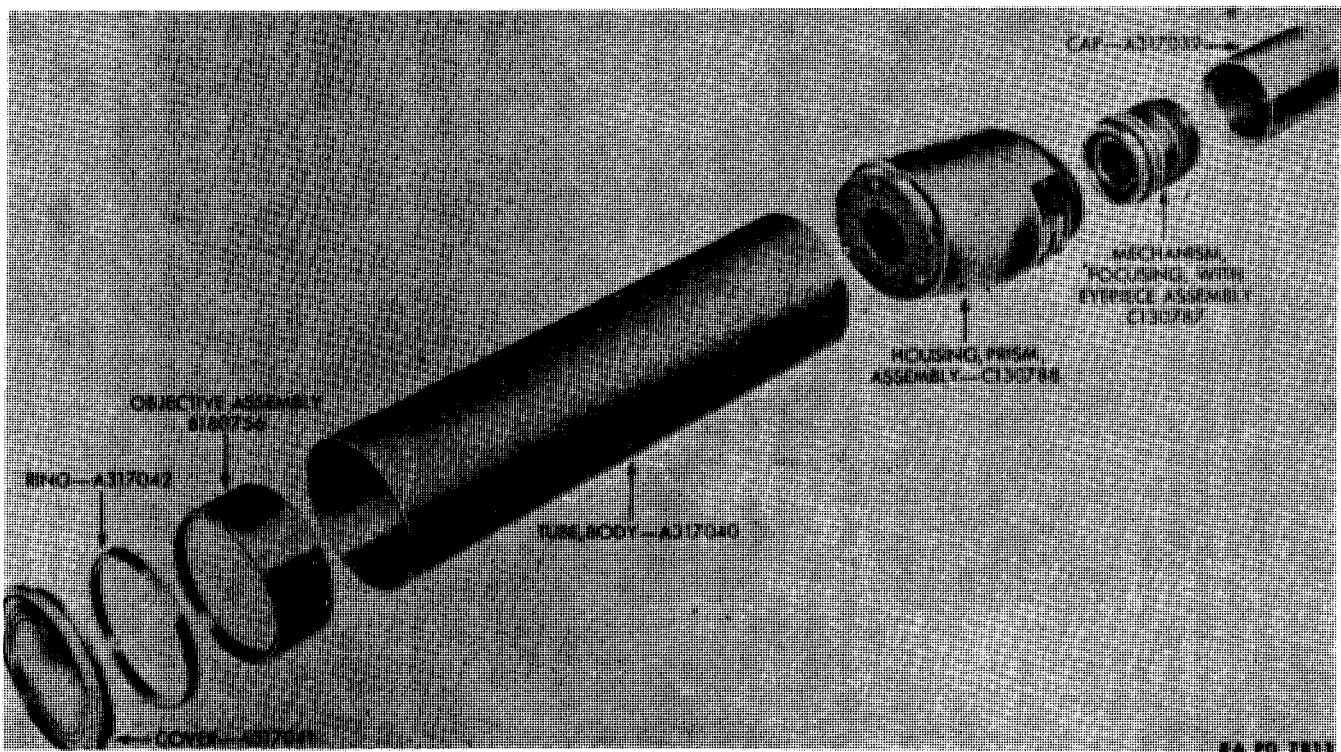

Figure 14—Observation Telescope M49—Partially Disassembled
(1) Unscrew cover cap A317039 (fig. 14).
(1) Unscrew the housing assembly C130788 from the body tube A317040 and unscrew the eyepiece assembly C130787 from the housing assembly (fig. 14).
(1) Unscrew the ring A317042 (fig. 14) from the front end of the body tube.
(2) Unscrew the objective assembly B180756 (fig. 14) from the body tube A317040.